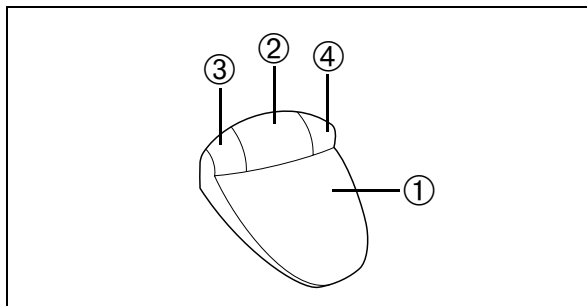

Fig. 80
The direction of rotation is changed using the left-hand button ③ (Fig. 80) on the foot control